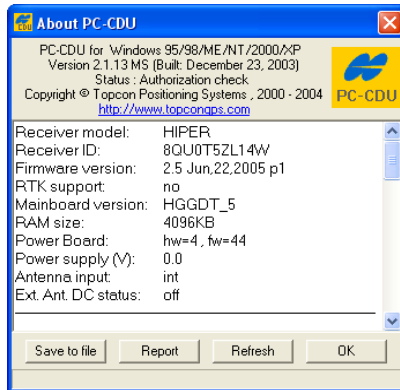

Figure 3-23. About PC-CDU
2. Click **Help ▶ About**. The *About PC-CDU* dialog box opens (Figure 3-23).